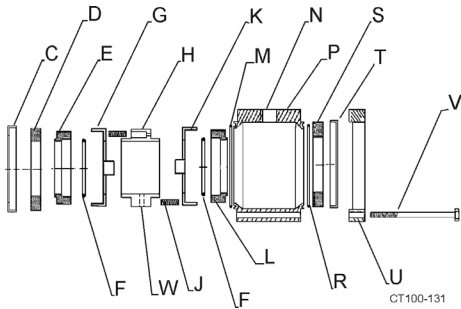
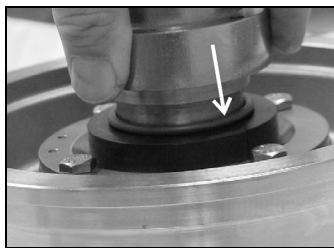

Figure 28 - Type 4 Seal Components
Figure 30 - Install O-ring Using Spring Retainer.
1. Install L-gasket in backplate (Figure 28, items B and C) and seat retainer. (Figure 28, item T).
2. Install stationary seals (Figure 28, item S) in L-gaskets.
5. Slide o-ring (Figure 28, item F) onto shaft and use spring retainer to push o-ring into rotary seal (Figure 30).
6. Place washer (Figure 28, item G) over rotary seal with tabs in outside diameter notches.
7. Place three springs (Figure 28, item J) in one side of spring retainer holding them in place with silicone sealer. With springs down slide spring retainer onto impeller shaft against washer.
9. Slide washer and o-ring (Figure 28, items K and F) onto shaft against spring retainer. Use spring retainer to push o-ring into rotary seal.
10. Remove 1/4 NPT plug from center port on flush housing (Figure 28, item N).
11. Install o-rings (Figure 28, items R and M) in both ends of housing.
12. Install L-gasket in seat retainer. (Figure 28, items T and U).
13. Install stationary seal (Figure 28, item S) in L-gasket.
15. With flush ports facing away from the backplate place seat retainer (Figure 28, item T) on housing.
16. Tighten seat retainer in place using four hex screws (Figure 28, item V).
17. Tighten set screws in spring retainer through 1/4" NPT center port in flush housing (Figure 28, item N). Insert plug and tighten.